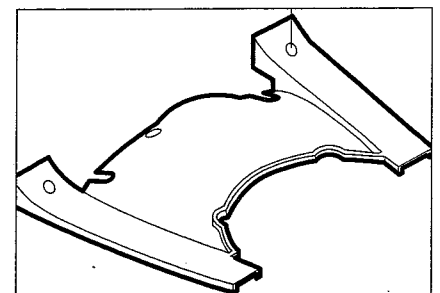

Fig. 10
5. Reinstall the rear deck cover using the three previously removed screws. Make sure that the clutch control cable passes through the right side cutout and the BBC cable passes through the left side cutout. See Fig. 10.